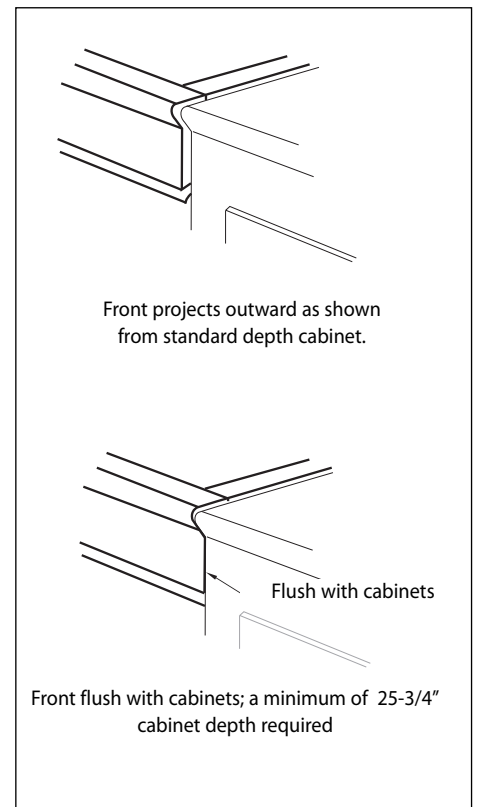
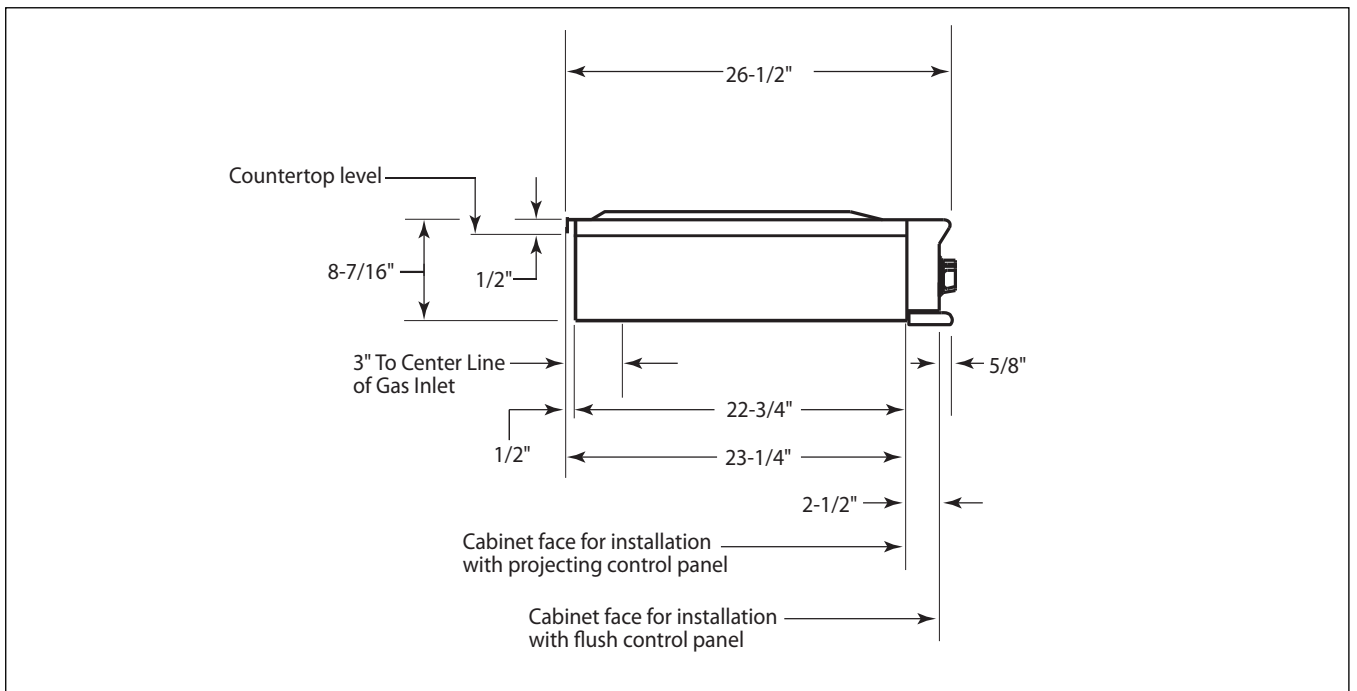

Fig. 4
Fig. 7
4. The cooktop can be installed in various positions with the front either flush or projecting, depending on the countertop depth. See Fig. 4 & Fig. 7 (cooktop side view).